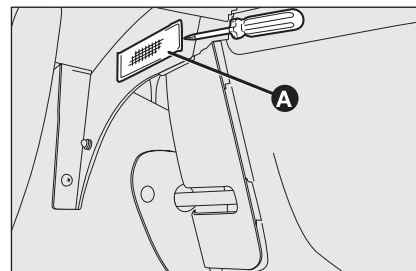

fig. 43
- insert the screwdriver supplied with the car in the point shown by the arrow and remove the ceiling light **A**-fig. 43.